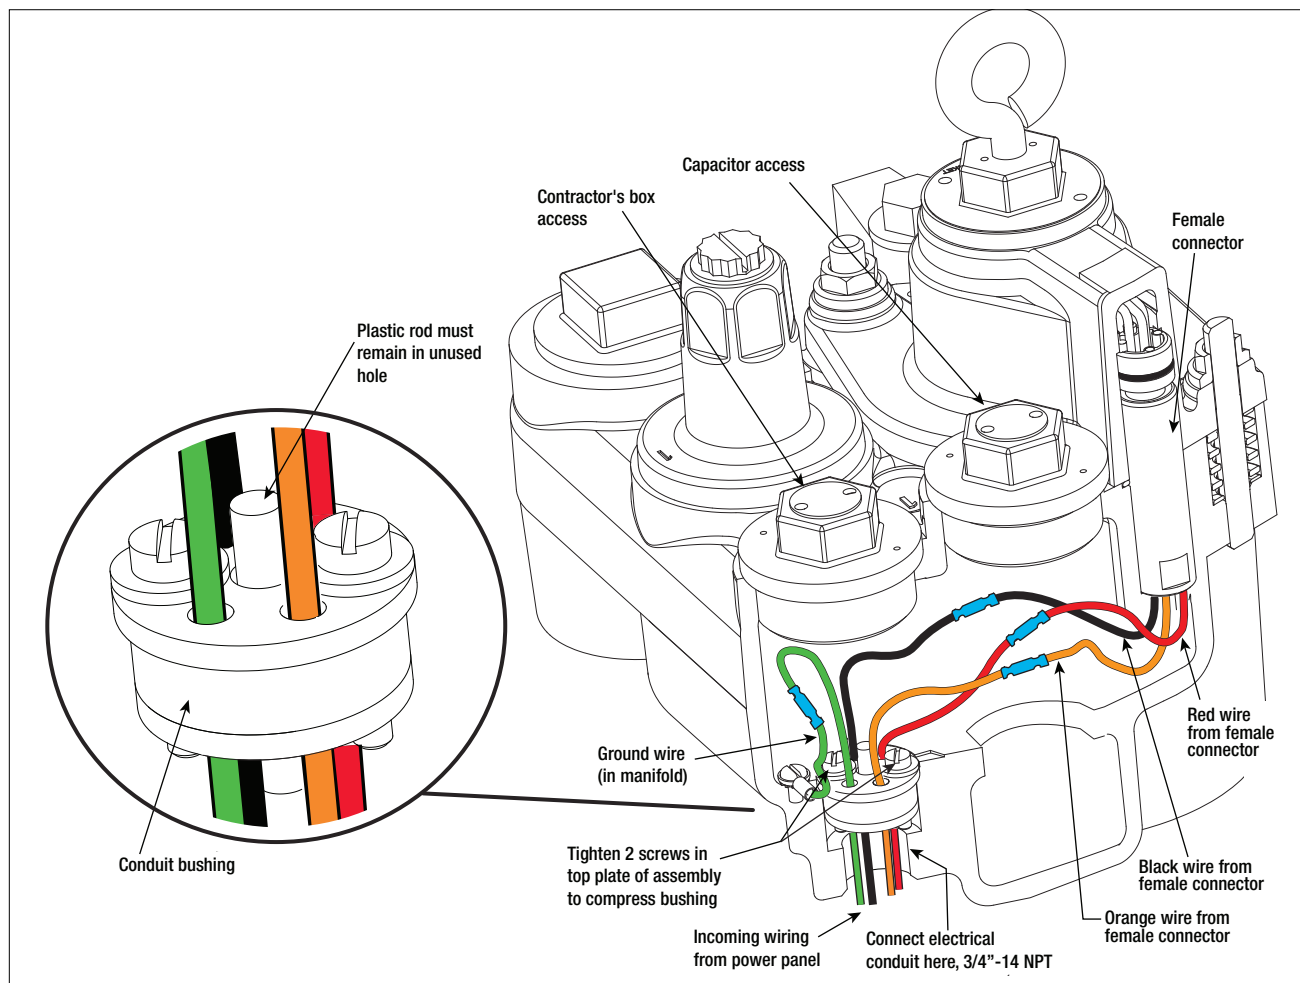

Figure 16. Power Wiring Compression Bushing Installation
1. Connect electrical conduit approved fittings to power wiring entry at base of manifold's contractors box 3/4" - 14 NPT (5 threads minimum engagement) (see cutaway example in Figure 16 for three phase power wiring).
2. Loosen the two screws in the compression bushing just enough so you can remove the bushing from its socket in the bottom of the manifold's contractor box (see Figure 16). Continue lifting up the bushing until it is accessible. Notice that the top plate of the bushing assembly (facing into the manifold) has a larger diameter than the bottom plate, and that there are two open holes and three holes with plastic rod inserts. The plastic inserts seal the bushing and must remain in any unused hole. For example, bringing three wires from the power panel, use the two empty holes and remove and discard one of the two smaller diameter plastic inserts for the third wire. Push each of the incoming power wires through the empty holes in the bushing assembly. Slide the